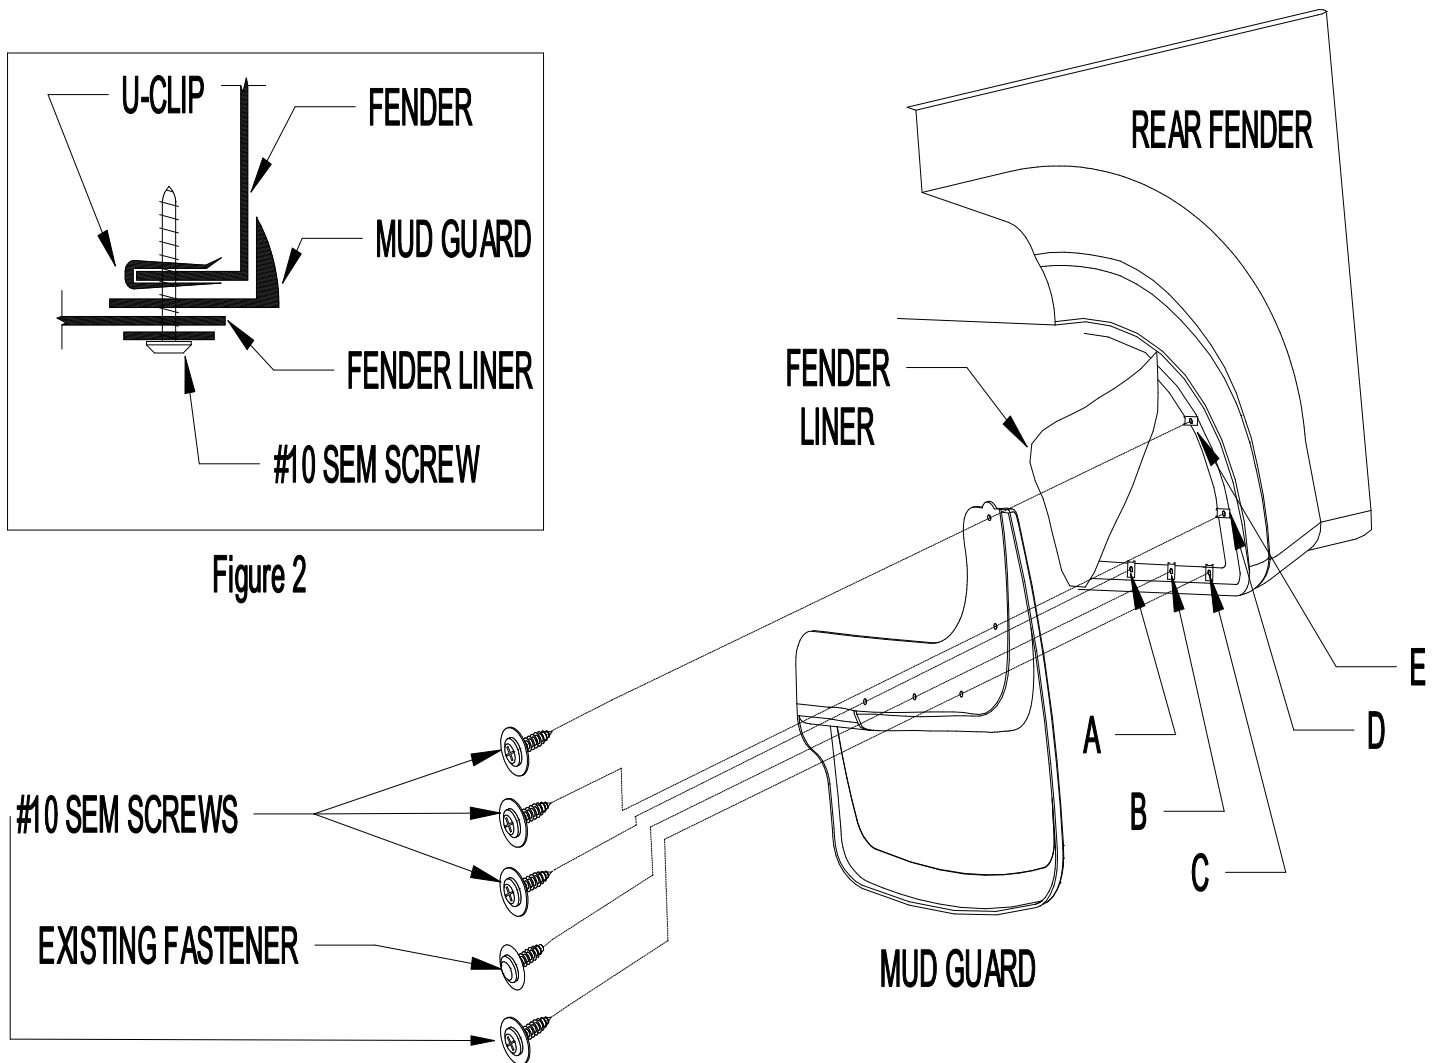

Figure 1
2. Remove the existing fastener from location B (Figure 1).